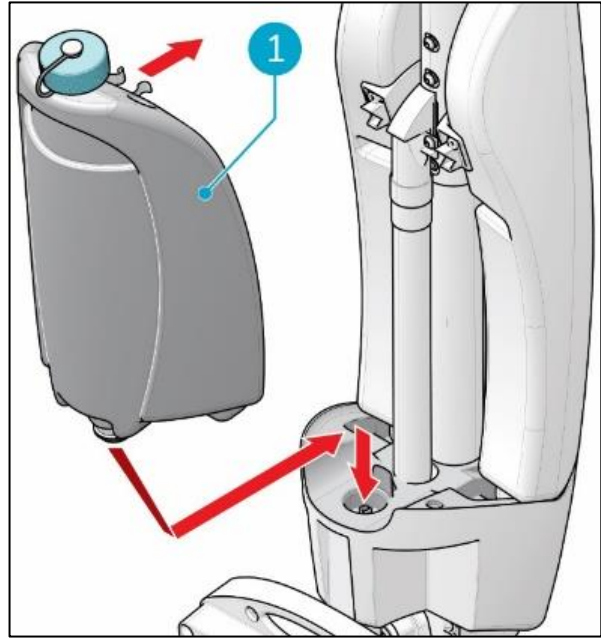

Figure 11
1. Put the tank (Figure 11, pos 1) on the i-mop® XL basic with the valve first.